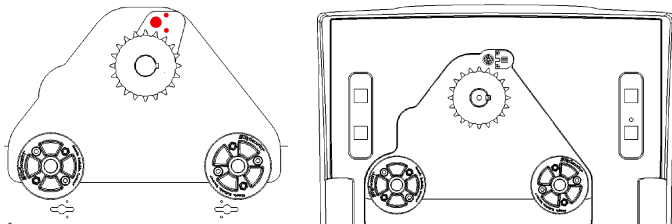

Figure 24. Drill Holes for Target Sensor
- Drill two (2) 0.125" (3.2 mm) target sensor mounting holes. Drill 0.5" (12.7 mm) cable access hole (Figure 24).